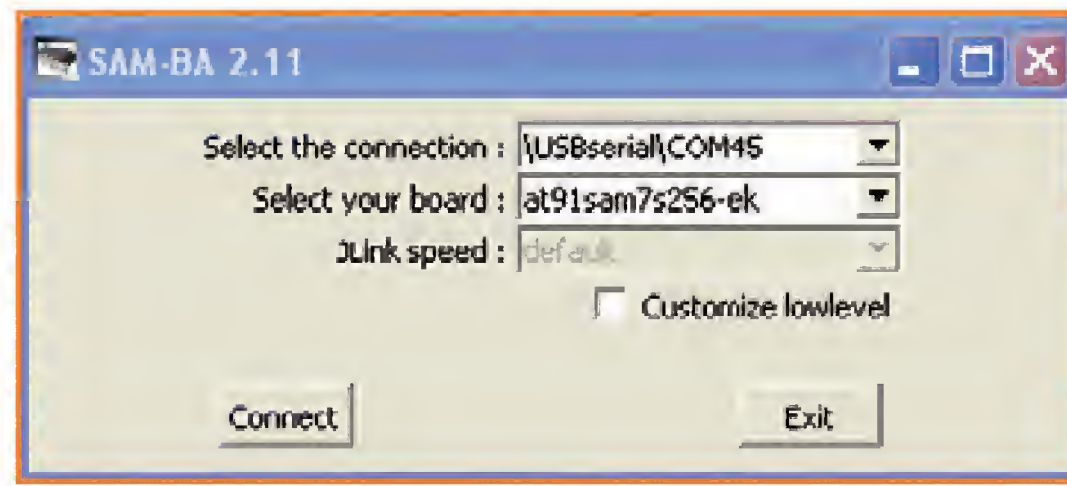

Figure 6.
**Figure 6.** Click on 'connect' to start communication with the network tester. Then select the binary file for the microcontroller and click on 'program'. The firmware will then be loaded into the flash memory of the ARM processor. Now the processor must be reset, either by power cycling or pushing reset button S1. D1 should blink every two or three seconds, signaling the micro is running.